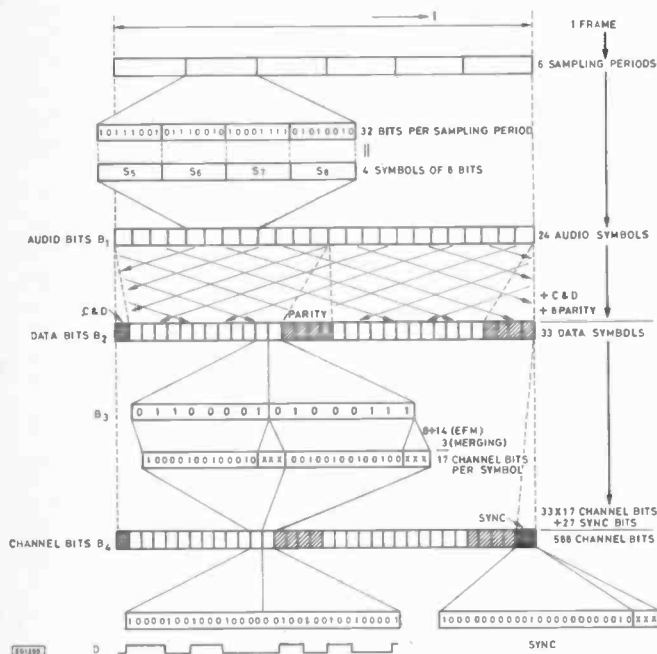

Fig. 3. Bit streams in the encoding system (Courtesy Philips Technical Review)
being read. The information is divided into frames; Fig. 3 gives one frame of the successive bit streams. There are six sampling periods for one frame, each sampling period giving 32 bits (16 for each of the two audio channels). These 32 bits are divided to make four symbols in the 'audio bit stream' B_1 . In the 'data bit stream' B_2 , eight parity and one C&D (Control and Display) symbols have been added to the 24 audio symbols. To scatter possible errors, the symbols of different frames in B_1 are interleaved, so that the audio signals in one frame of B_2 originate from different frames in B_1 . The modulation translates the eight data bits of a symbol of B_2 into fourteen channel bits, to which three 'merging bits' are added (B_3). The frames are marked with a synchronisation signal and the final result is the 'channel bit stream' (B_4) used for writing on the master disc, in such a way that each '1' indicates a pit-edge (D). This technique is called eight to fourteen modulation or EFM.